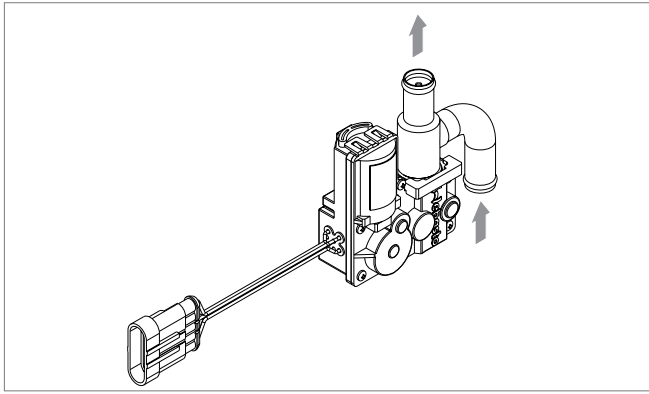

Fig. 40: Valve
- ▶ Connect the hoses (Coolant flow according arrows, Fig. 40)